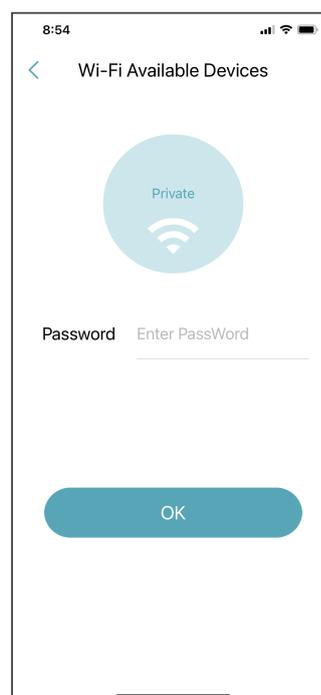
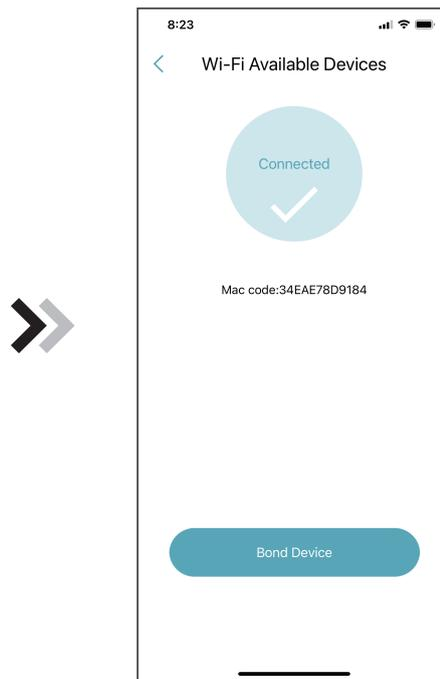
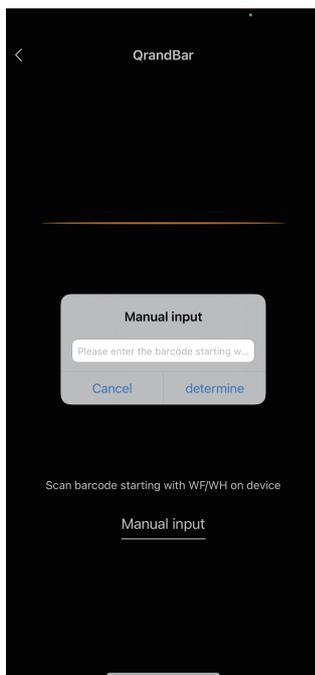

Fig.8 Enter password interface
Fig.10 Bond device interface
Fig.11.2 Manual input interface
2. Click "Next" to enter the wifi password for the current connection(Fig 8), the APP automatically search for wifi module (Fig 10);
3. Click "Bond device" (Fig.10) to allow the App to use the camera for scanning the serial number/wifi code on the heat pump(Fig.11.1), or click "Manual input" to enter the serial number/wifi code(Fig.11.2).